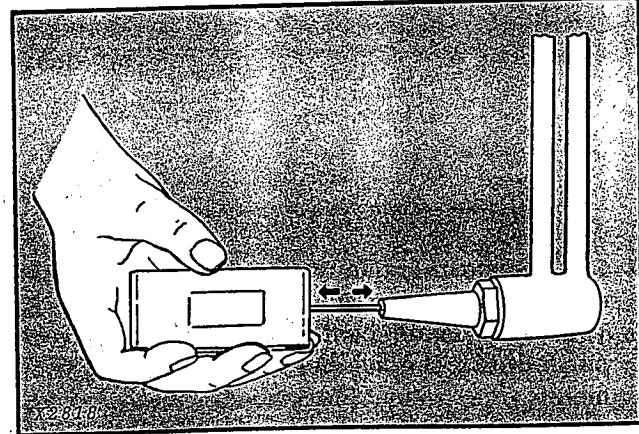

Fig. 21 — Using A Welding Tip Orifice Cleaner
3. Use a sized tip cleaner to unplug tip orifices (Fig. 21). When welding, molten metal droplets may be thrown into the tip orifices. Also, carbon soot may deposit in the tip. A good sign that the tip is clogged is difficulty in getting a neutral flame.